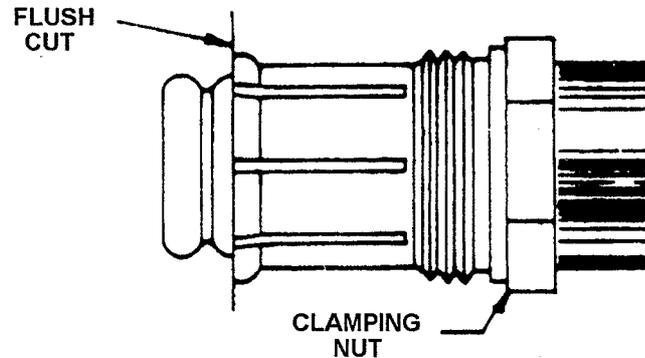

Figure 3.59. Adding the Clamping Nut and Cutting the Cable
- d. Push the clamping nut onto the cable, using a twisting motion to ensure that the spring contacts snap into the first groove (see cutaway view in Figure 3.59). Grip the clamping nut with one hand and align the edge with the scribed line. Using a hacksaw with a fine-toothed blade, carefully cut the cable flush with the end of the clamping nut (see Figure 3.59).